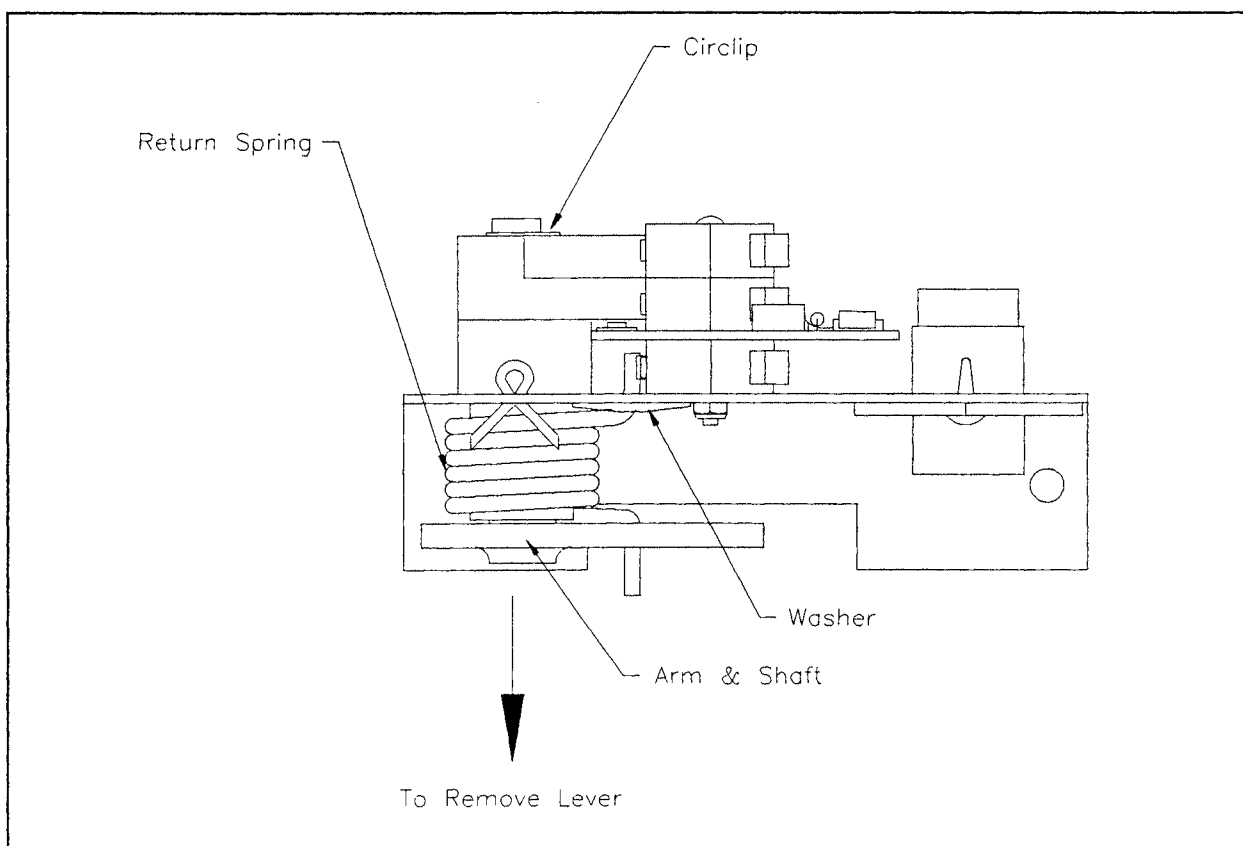

Figure 3-5
Use the following procedure to replace the lever return spring and refer to Figure 3-5.
- Slide the shaft and spring out of the module as shown by arrow in Figure 3-5.